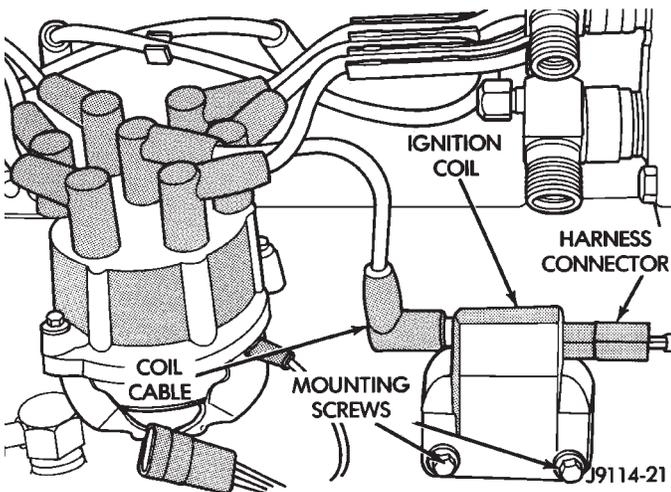

Fig. 20 Ignition Coil—Typical
The ignition coil is mounted to the right side of the engine block next to the distributor (Fig. 20).
- (1) Disconnect the ignition coil secondary cable from ignition coil (Fig. 20).
- (2) Disconnect engine harness connector from ignition coil.
- (3) Remove ignition coil mounting bolts. Remove coil.